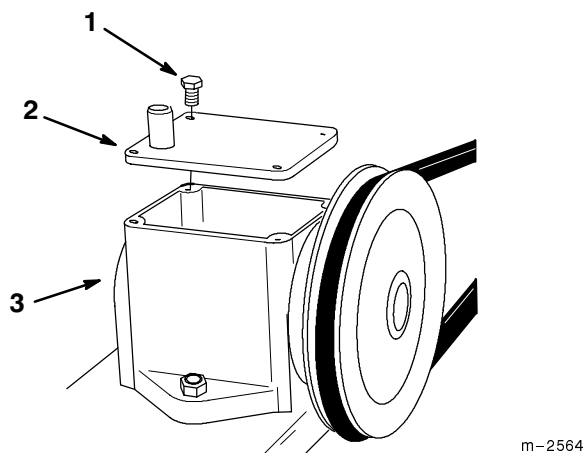

Figure 24
2. Remove the gearbox cover screws and remove the gearbox cover (Fig 24).
5. Reinstall the gearbox cover, then reinstall and tighten the gearbox cover screws (Fig 24).